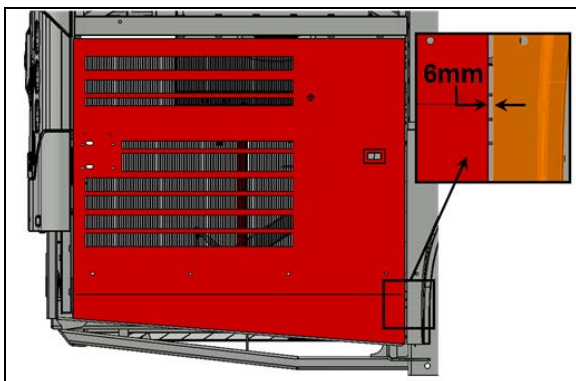

FIGURE 116
7. Check the gap between the door and the adjacent panel at the level of the lower attachment point of the arm on the door. The gap should be  $1/4"$  (6 mm) (FIGURE 116).